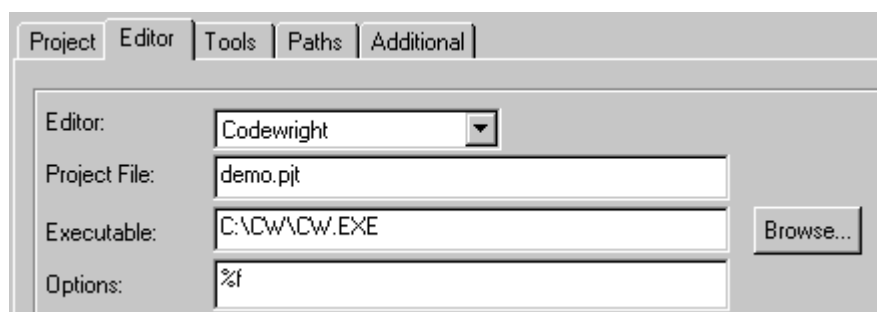

Figure 4-3. Editor Configuration for Codewright
6. The **Options** edit box contains options used for error feedback in the MCUez assembler and linker. After selecting Codewright, the shell automatically enters the appropriate options. **Figure 4-3** is a typical setup for Codewright.